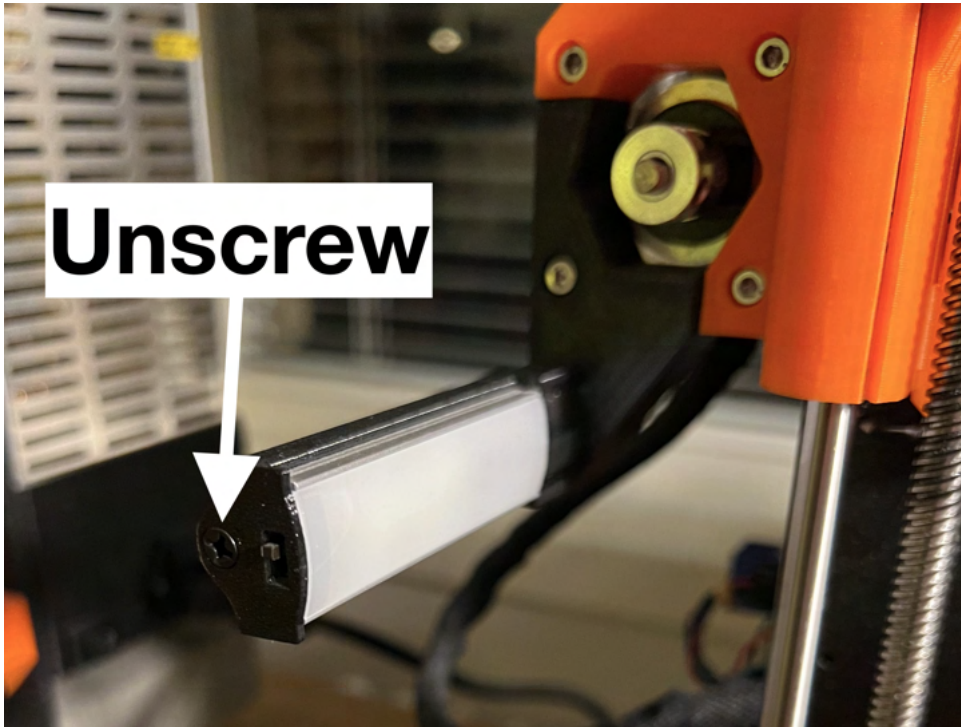

Figure 15: Illustration to show the screw that needs unscrewing for removing the end cap.
1. Begin by unscrewing the end cap of the light, like shown in Figure 15.